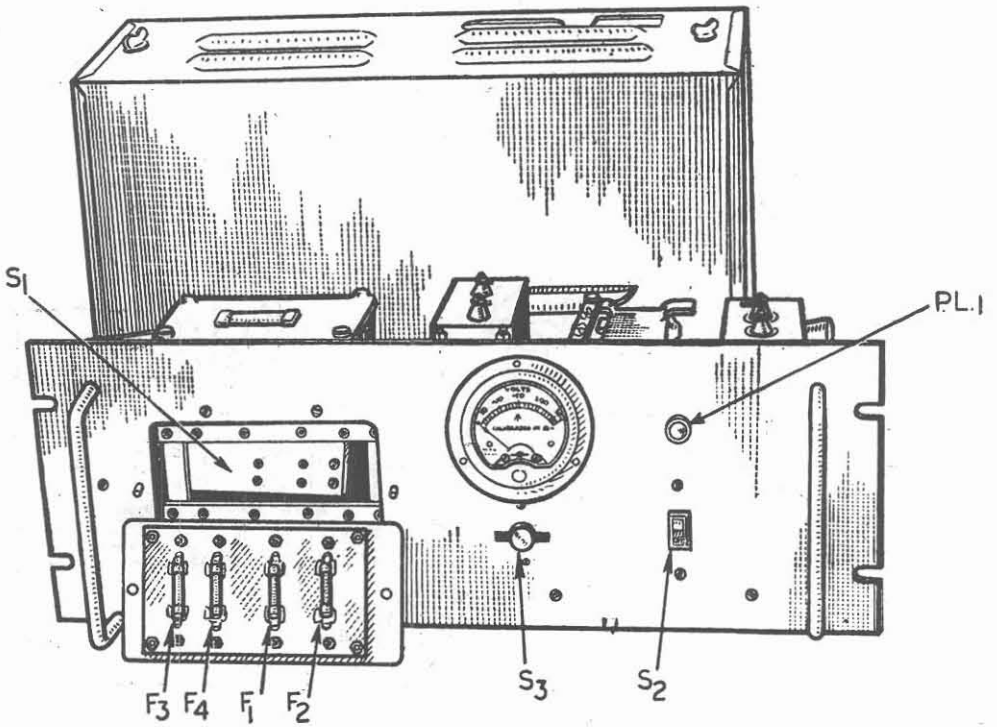

Fig. 1. Power unit Type 234A, front view, fuses exposed
7. The general layout of the unit may be seen from fig. 1 and 3. The front view (fig. 1) gives the location of the controls on the front panel, including the meter M1 and the PRESS TO READ HT switch S3. The fuse panel is shown removed from the unit to illustrate the method of mounting of the fuses; they are held in clips on an insulated panel mounted on the rear of the outside metal panel, each clip being connected to a metal pin. Inside the unit are two insulated strips carrying sockets to which the circuit connec-
tions are made. When the fuse panel is in position, the metal pins plug into these sockets and connect the fuses into circuit, the panel then being locked in position by two wing-nuts. The primary tapping switch S1 is a link plug fitting into the sockets indicated in fig. 1.